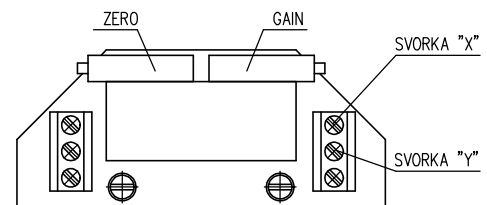

Fig.7
#### 4.4.2 EPV – 3-wire version (Fig. 7)
- Adjust the resistive transmitter according to the previous chapter. The resistance is to be metered on the terminals X-Y (Fig. 7). The used transmitter resistance is 2000W or 100 W.
- Turn the adjusting trimmer ZERO (Fig. 7) to adjust the output current signal rate measured on the terminals 81-82 to 0 mA or 4mA.
- Turn the adjusting trimmer GAIN (Fig. 7) to adjust the output current signal rate measured on the terminals 81-82 to 20mA or 5 mA..